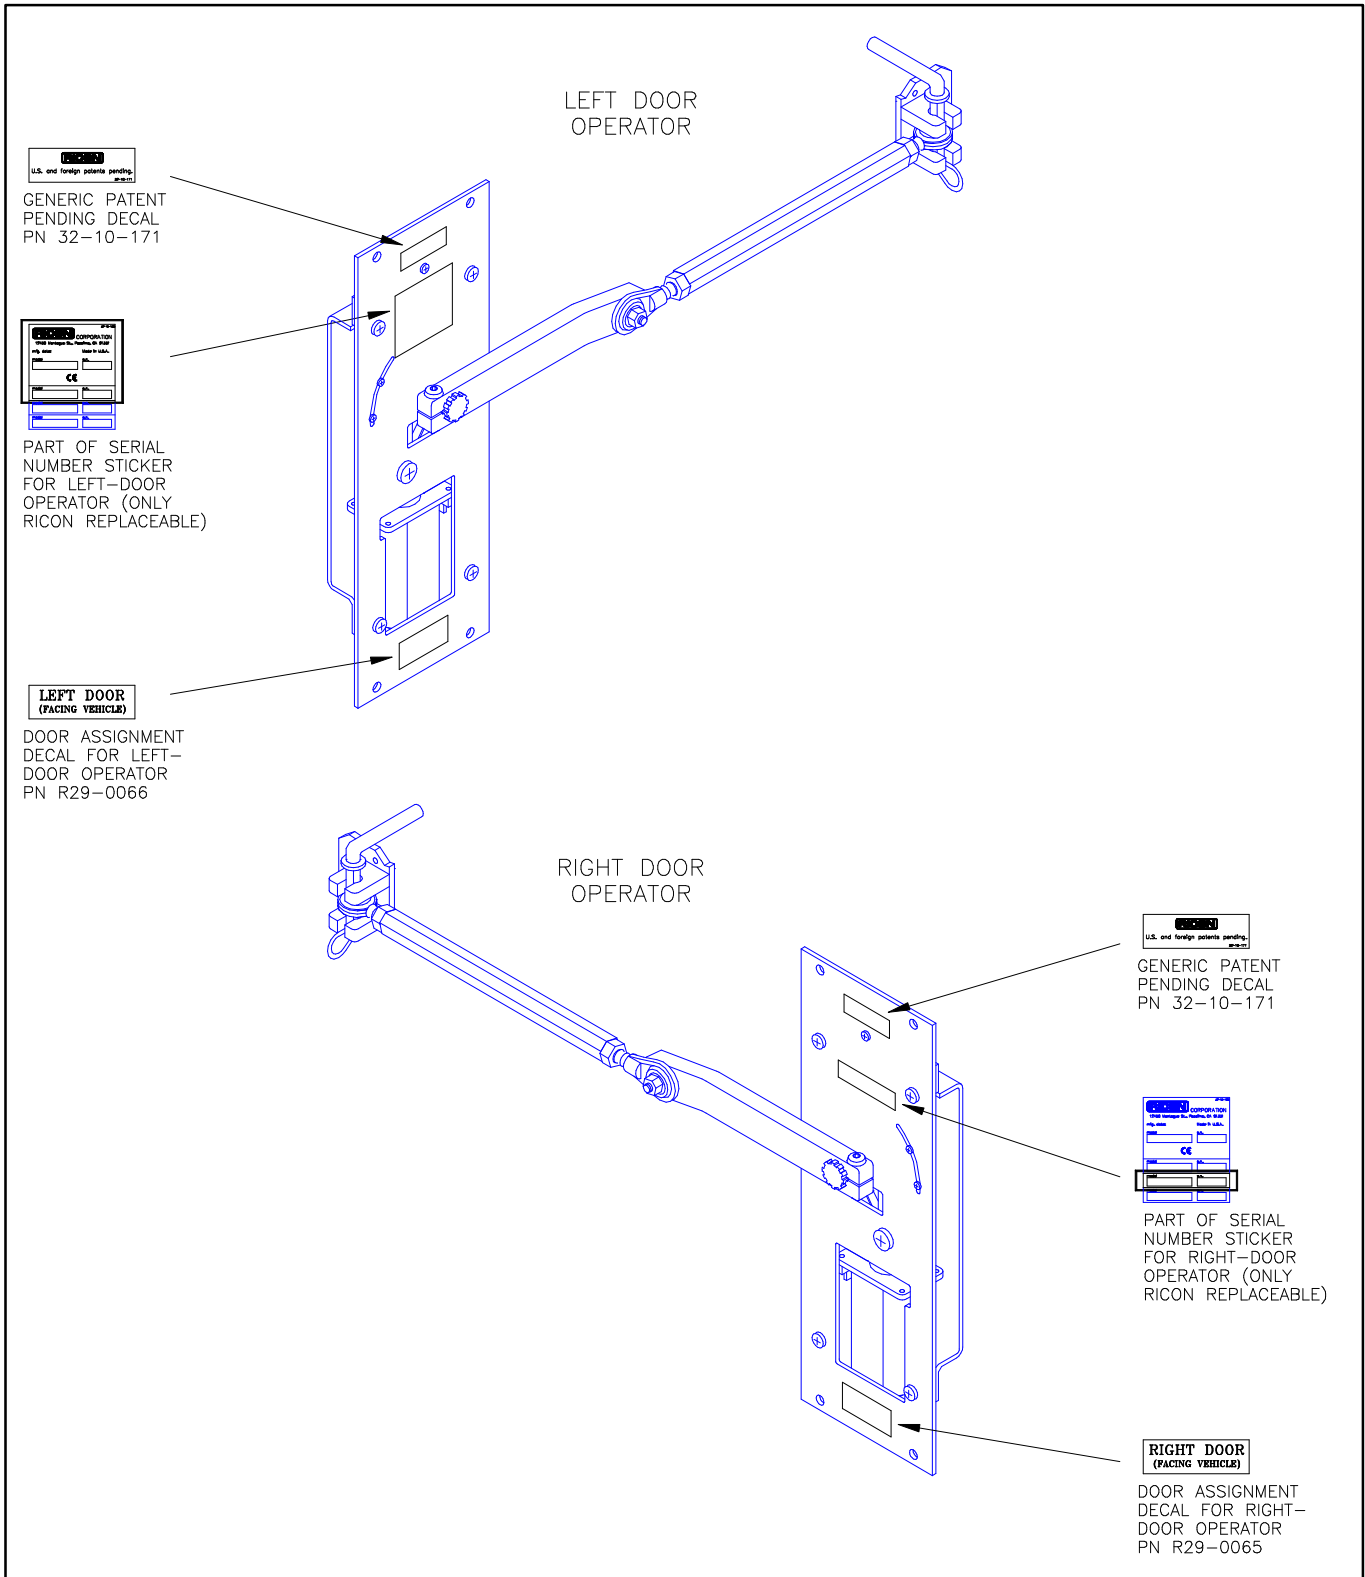

FIGURE 2-8: DECAL LOCATIONS AND PART NUMBERS
- Refer to **Figure 2-8** and verify that all decals are properly located and affixed as shown.